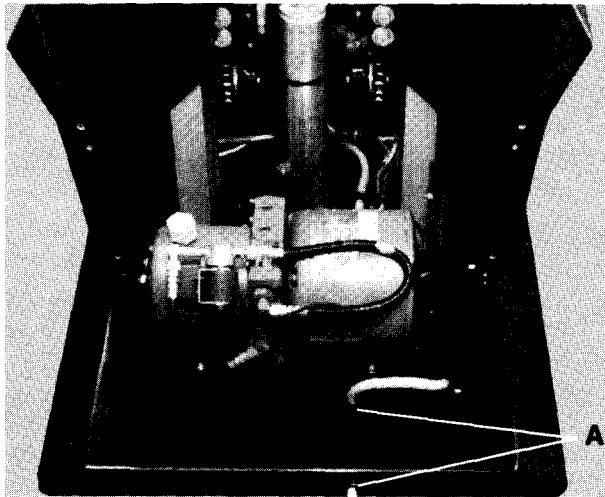

Fig. 33
- 2) Remove Strain Relief Bushings, Item "A", Fig. 33, from cord by grasping bushing with hand pliers (See "Special Tools" on Page 24), squeezing tab on bushing, and pulling bushing out of hole in base.